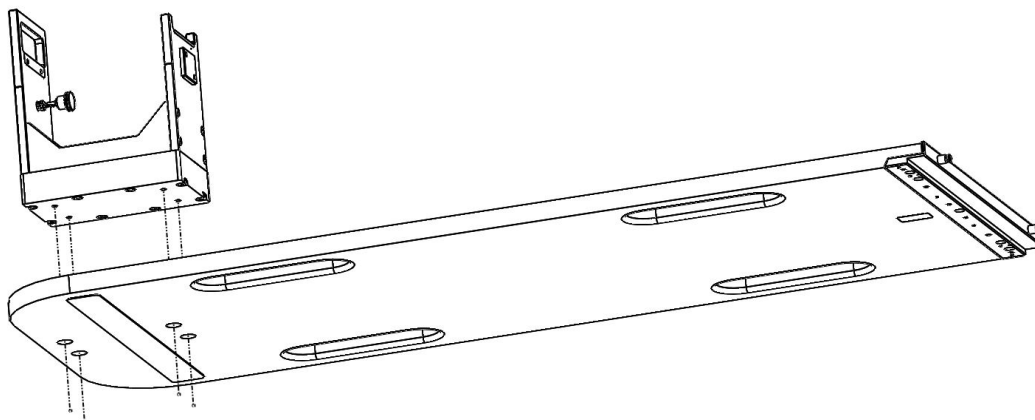

Fig. 7
1. Line up the 4 holes on the bottom of the Phantom Holder Top with the four holes on the head end of the kVue CT Phantom Holder Base Assembly (Fig. 7). Then, place the Phantom Holder Top on the kVue CT Phantom Holder Base Assembly with the holes still aligned (Fig. 7).